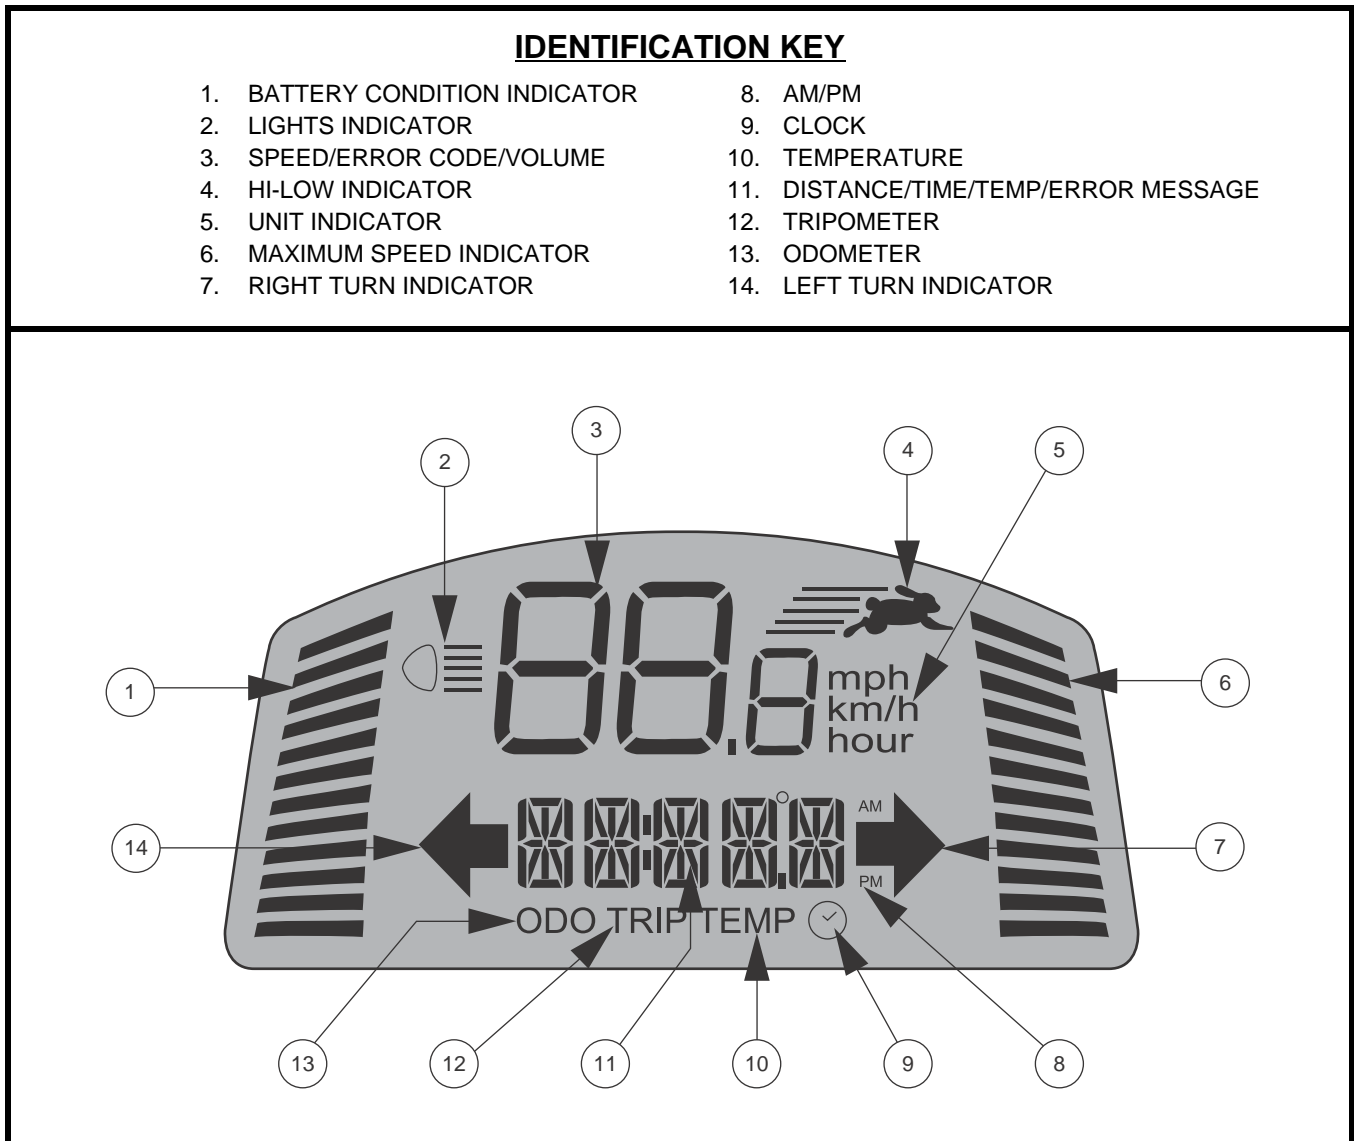

Figure 2. LCD Screen
- Press the **High-Low** button once to set the speed adjustment to high. The High-Low indicator will display on the LCD screen. **See figure 2.** Using this setting in conjunction with the speed adjustment buttons will allow the PMV to achieve speeds up to the maximum preprogrammed speed for the PMV.
These adjustment buttons enable you to pre-select and limit your PMV's speed. This is indicated by the maximum speed indicator on the LCD screen. **See figure 2.**
**NOTE:** The more bars shown on the maximum speed indicator, the faster your pre-selected maximum speed will be. See figure 2.
The LCD control panel offers easily intuited feedback information via the LCD screen. See figure 2. The LCD screen is also used during the set-up (activation) of the various control panel settings. See chart 1.